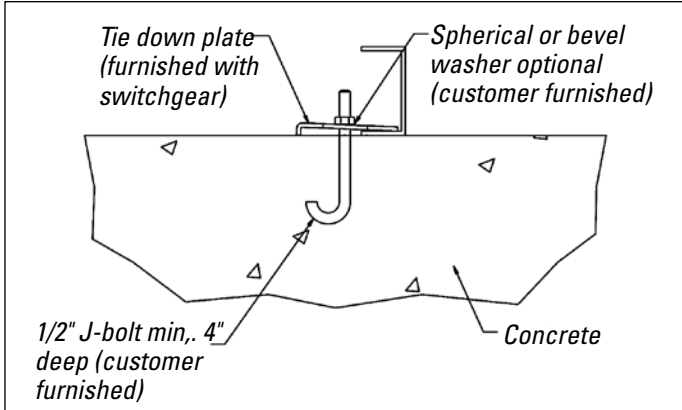

Figure 3b. Anchor Bolt Detail.
**Step 5** - Following the correct concept in Figure 4, level the base, using metal shims as required. Secure each bay to the pad with the anchor clips ("hold down plates") provided, (see Figure 3a and Figure 3b) by tightening the anchor-bolt nuts.